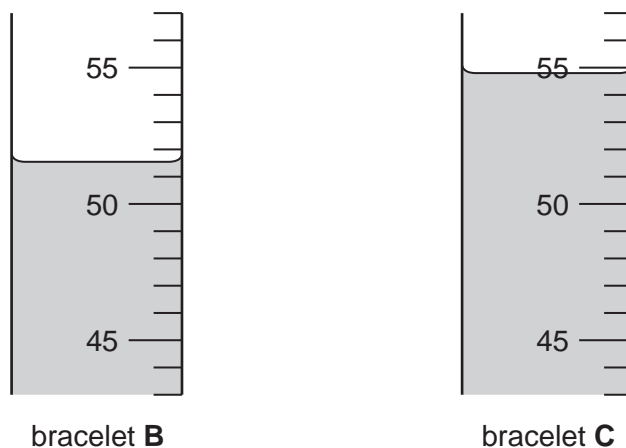

Fig. 5.1
- (i) Use Fig. 5.1 to read the new volumes for the two bracelets, **B** and **C**. Record these values in Table 5.1. [2]